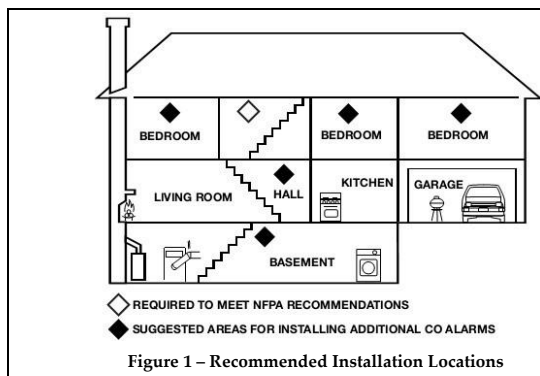

Figure 1 - Recommended Installation Locations
Step 2: Recommended Installation Locations (Figure 1)